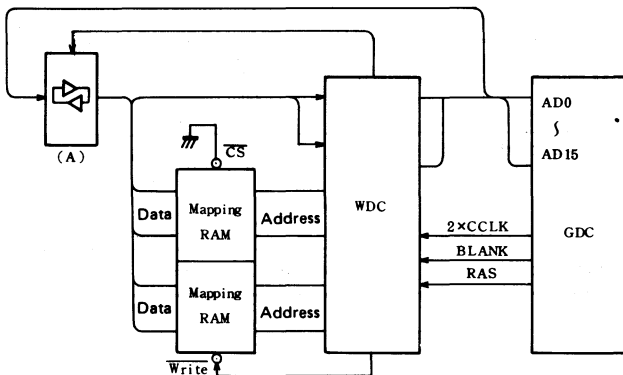

Fig. 73
The Fig. 73 provides the WDC, mapping RAM, and GDC configuration. The CS of the mapping RAM is always low, and is read when windows are displayed. When writing data into the mapping RAM, the WDC controls the buffer (A) and RAM write signal to let the GDC write the necessary data.